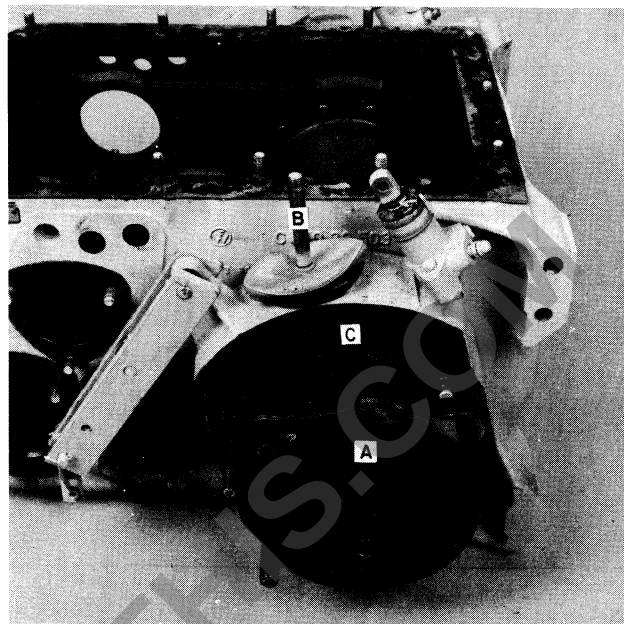

FIGURE 23-13
8. The brake actuating mechanism, A, Figure 23-13, can now be removed by disconnecting the actuating rod, B, and sliding the actuating assembly off the shaft.
9. Remove the inner brake disc, C, Figure 23-13.